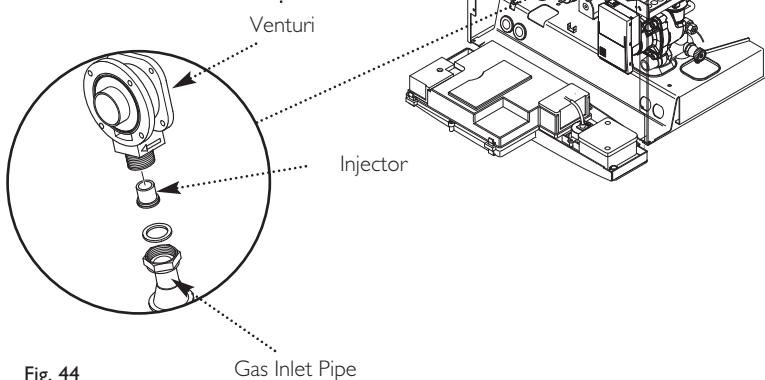

Fig. 44
6. Undo the nut on the gas inlet pipe to the venturi (Fig. 44) and pull the sensing pipe off the fan.
9. Carefully draw the fan, collector and cover assembly forward, being careful to retain the injector in the venturi (Figs. 44 & 45).